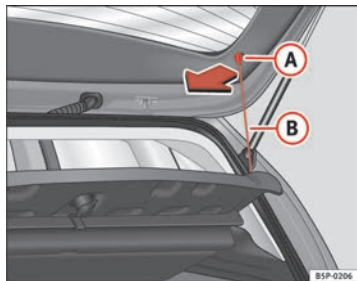

Fig. 124 Storage shelf
- Unhook the loops \Rightarrow fig. 124 **B** from housings **A**